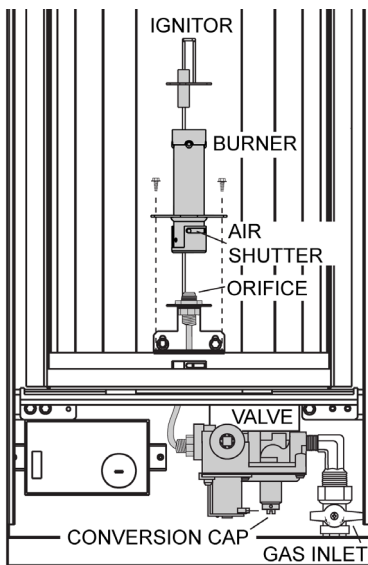

FIGURE 2
4. Remove the burner. (FIGURE 2)
7. Using a 7/16" wrench, remove the orifice, replace with the orifice supplied. (FIGURE 2)